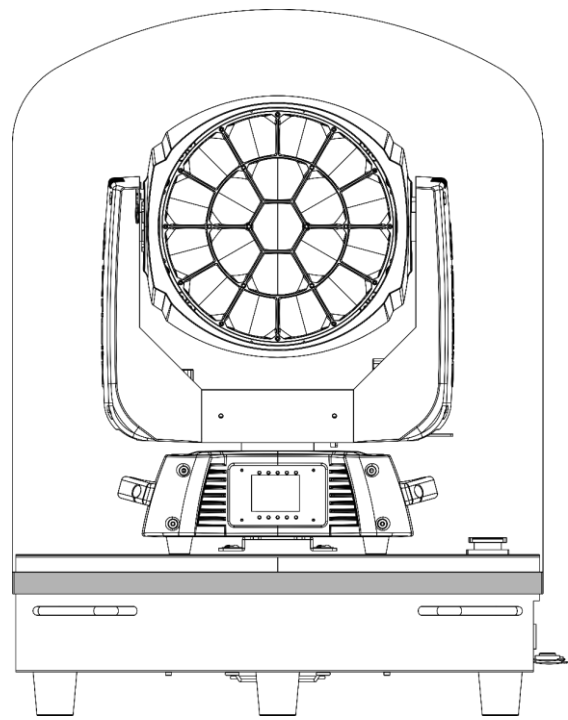

Fig. 19
- 02) Attach the hook-and-loop fastener of the plastic sleeve to the **hook-and-loop fastener (09)** of the device and press it tightly (Fig. 19).